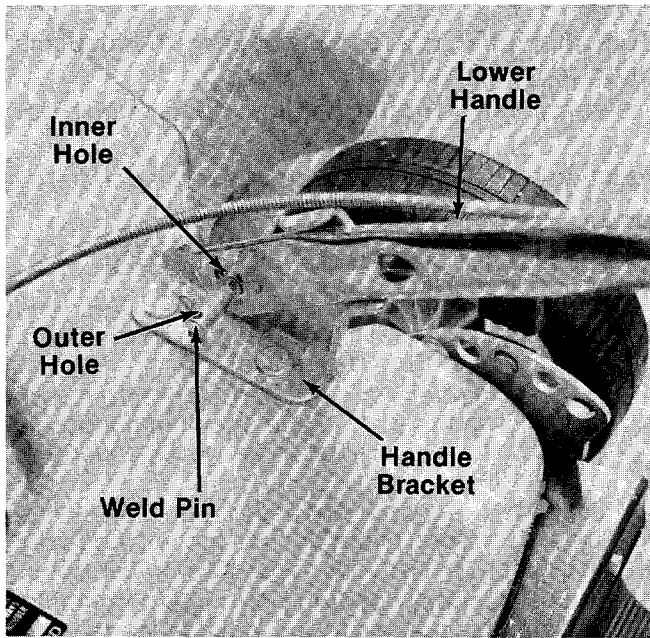

FIGURE 1.
2. Fasten lower handle in position over weld pins in handle mount brackets on deck. ← Secure with hairpin cotters in inner hole on weld pin. See figure 1.